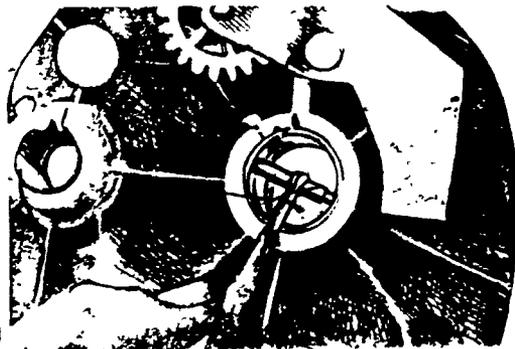

FIGURE 4
- a. Measure inside bearing diameter with telescoping gauge (Figure 4)